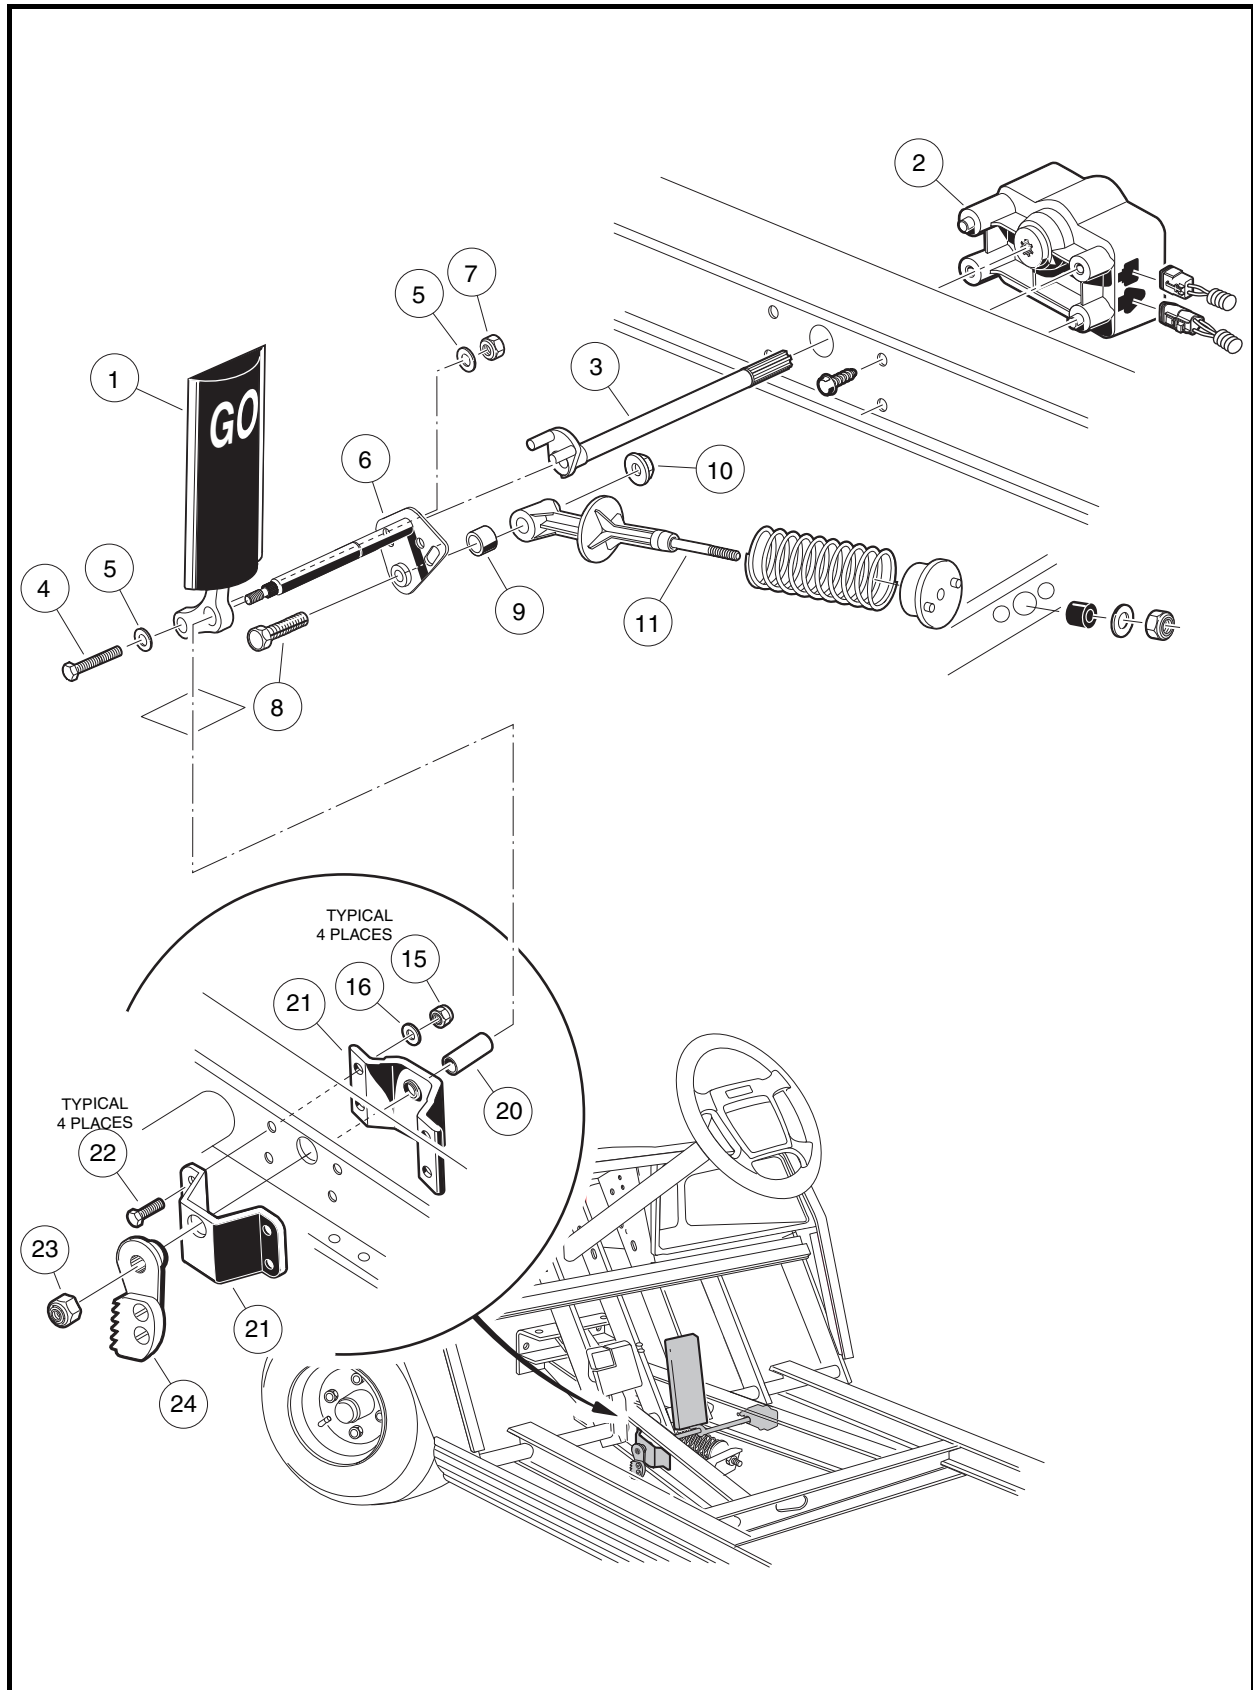

Figure 5-8 Accelerator Pedal – Electric Vehicle
3. Remove the MCOR (2) and drive bar (3) as instructed (**Figure 5-8, Page 5-10**). **See MCOR Removal, Section 12, in the appropriate maintenance and service supplement.**
4. Using a 9/16-inch socket and 9/16-inch wrench, remove the nut (7), two washers (5), and bolt (4) securing the accelerator pedal (1) to the pivot rod (6) (**Figure 5-8, Page 5-10**).
5. Remove the nut (10) and bolt (8) from the accelerator pivot rod assembly (6).
6. Slide the spring retainer (11) off of the accelerator pivot rod.
7. Inspect the pivot support bearing (9) for wear and replace if necessary.
8. Use a marker to mark the position of the park brake ratchet (24) on the accelerator pivot rod (6). **See following NOTE.**
9. Remove the lock nut (23) from the accelerator pivot rod.
10. Press the brake pedal slightly and slide the park brake ratchet (24) toward the end of the accelerator pivot rod. Rotate the ratchet and remove it from the pivot rod.
11. Remove the pivot rod (6) and spacer (20) from the accelerator pivot rod supports (21) (**Figure 5-8, Page 5-10**).
12. Inspect the accelerator pivot rod supports (21) for wear and damage and replace as necessary. If the pivot rod supports do not require replacement, loosen, but do not remove, the four bolts (22) and lock nuts (15) to make installation of the pivot rod easier.
13. Remove the accelerator pedal (1) from the vehicle (**Figure 5-8, Page 5-10**).
1. If the accelerator pivot rod supports were replaced, position the supports (21) on the vehicle frame and install the four bolts (22), flat washers (16), and lock nuts (15) **(Figure 5-8, Page 5-10)**. Finger-tighten nuts at this time.
2. Insert the lower end of the accelerator pedal (1) through the floorboard and install the accelerator pivot rod (6) through the uppermost hole in the pedal.
3. Install plastic spacer (20) on pivot rod (6).
4. Insert the pivot rod through the pivot rod supports (21) on the vehicle frame.
5. Tighten the four bolts (22) attaching the pivot rod supports to the frame to 75 in-lb (8.5 N·m) **(Figure 5-8, Page 5-10)**.
6. Insert the bolt (4), two washers (5), and a new lock nut (7) through the lower hole in the pedal and through the pivot rod. Finger-tighten lock nut at this time.
7. Install the bolt (8) through the pivot rod (6) and spring retainer (11). Secure these parts with the nut (10) **(Figure 5-8, Page 5-10)**. Tighten the nut to 75 in-lb (8.5 N·m).
11. Install lock nut (23) on pivot rod **(Figure 5-8, Page 5-10)**. Tighten to 18 ft-lb (24.5 N·m).
12. Install the MCOR (2) and drive bar (3) as instructed. **See MCOR Removal, Section 12, in the appropriate Maintenance and Service Supplement.**